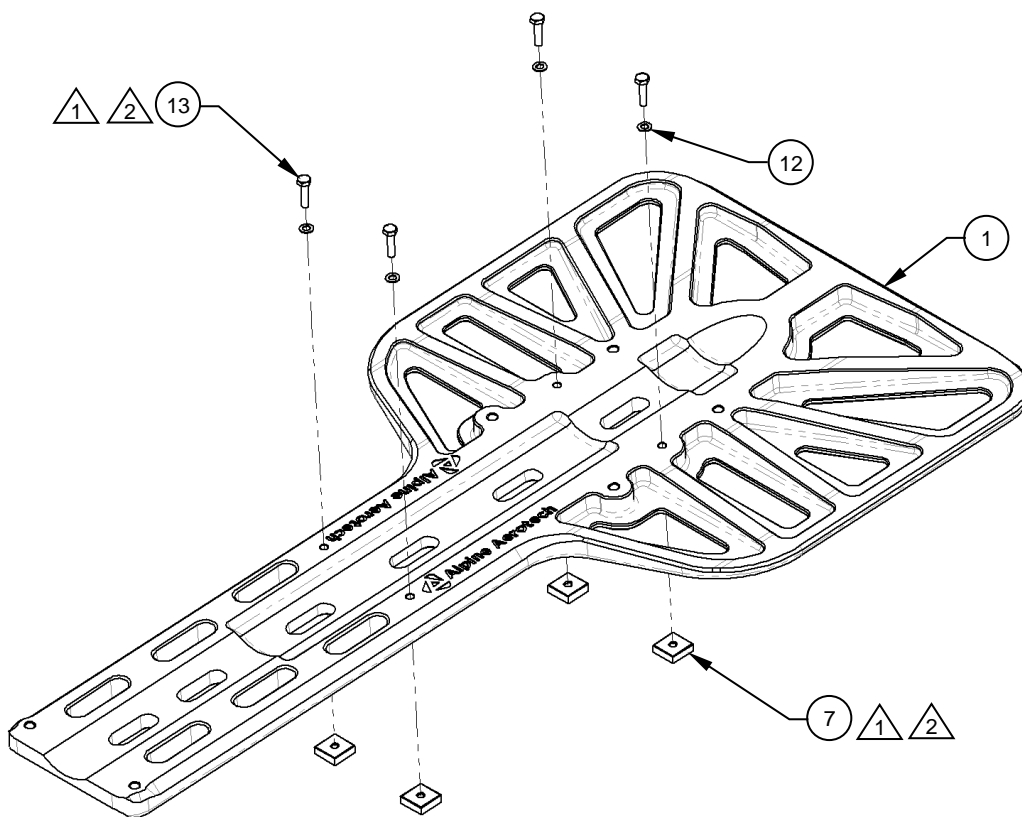

Figure 1
1. Prior to installation on the aircraft, install the Grippers (Item 7) and supplied hardware on the Bear Paw, Detail (Item 1) as shown. Ensure all serrated surfaces on the Grippers are facing down (serrations must be common to the ground). Ensure Thread-locker (Item 14) is applied (mandatory). Torque all Gripper fasteners IAW Flag Note 2. Reference Figure 1.